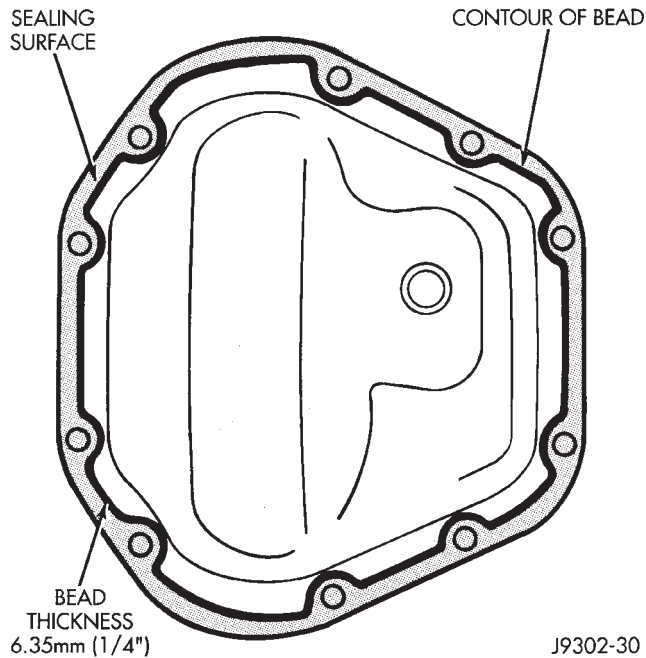

Fig. 60 Typical Housing Cover With Sealant
(1) Install the axle shafts. Refer to Axle Shaft Installation within this group.
(2) Scrape the residual sealant from the housing and cover mating surfaces. Clean the mating surfaces with mineral spirits. Apply a bead of Mopar Silicone Rubber Sealant on the housing cover (Fig. 60). Allow the sealant to cure for a few minutes.